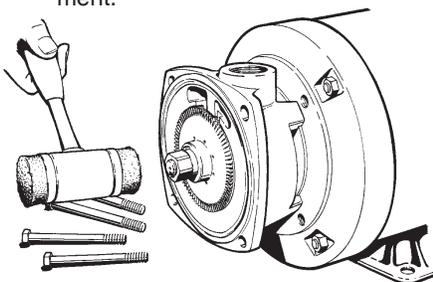

Figure 4-7
2. Remove the four (4) 3/8" X 4" bolts (#19) from the cover. (#2)
4. Remove the impeller (#11), refer to Figure 4-7. The impeller is a slip fit and, under normal conditions, can be removed by gently tapping on the end of the shaft sleeve with a mallet. Leave the impeller key (#23) in place. Striking the sleeve too hard could damage the seat or rotating element.